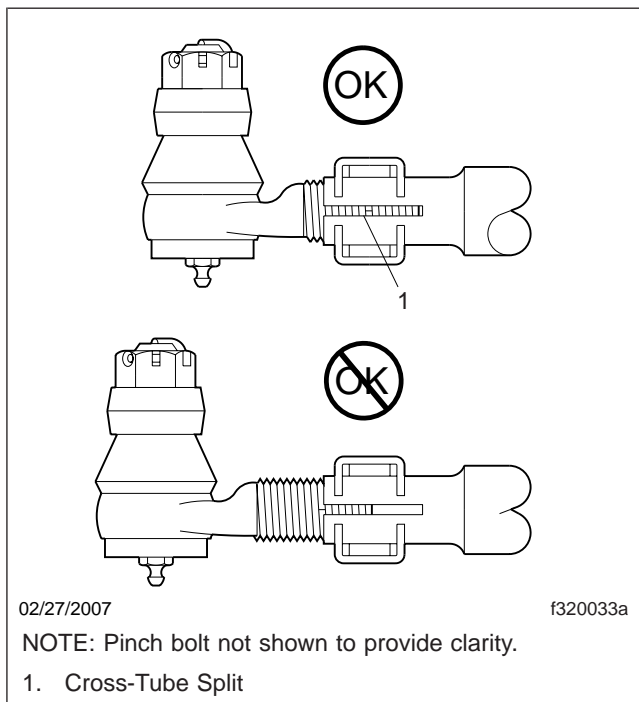

Fig. 4, Tie-Rod End Adjustment
2. The threaded portion of the tie-rod end assembly must be inserted all the way into the cross-tube split for adequate clamping. See Fig. 4. Replace the components if this cannot be done. For instructions, see Group 33 of the *Heavy-Duty Trucks Service Manual*.